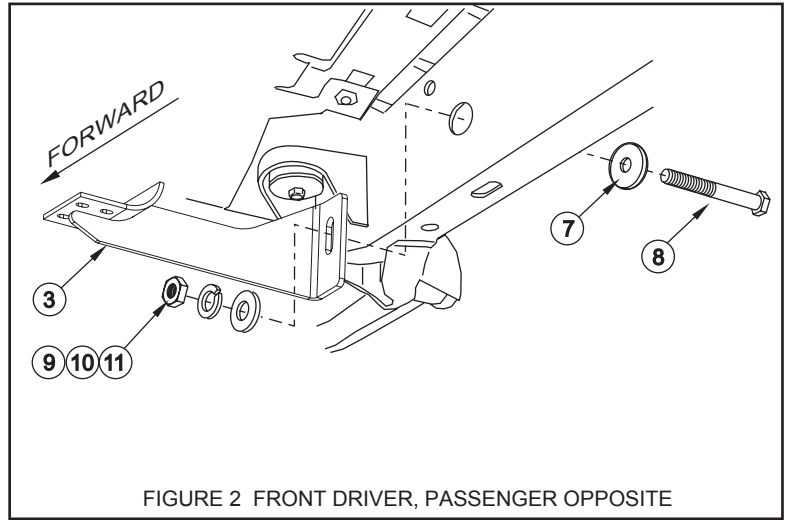

FIGURE 2 FRONT DRIVER, PASSENGER OPPOSITE
- STEP 4.** Locate front hole on drivers side of frame behind the front tire. **SEE FIGURE 2.** Attach the spacer washer to the 1/2-13 x 4.50" hex head bolt. Insert bolt through the backside of frame. Attach drivers side front bracket to bolt and secure with a 1/2" fasteners. Leave loose. Repeat for passenger side.